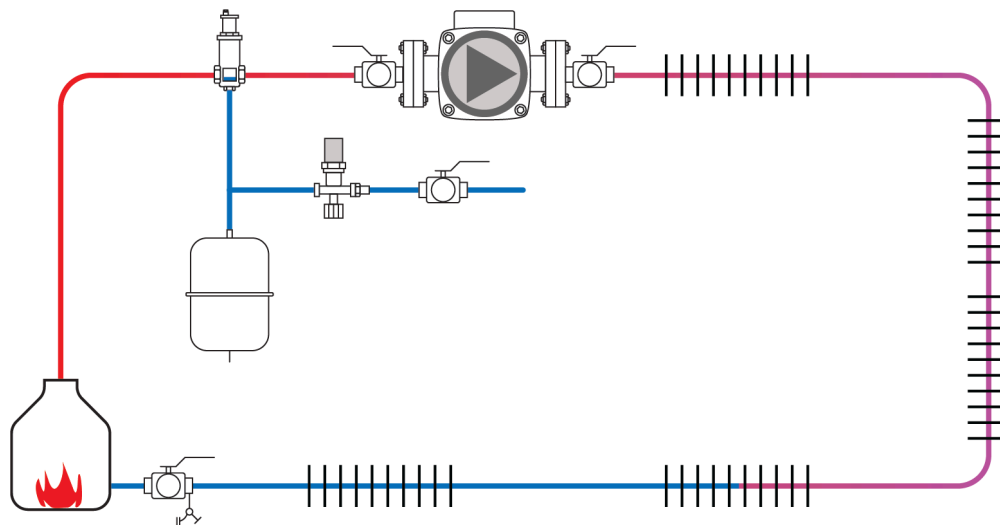

Figure 4
10. What system is shown in Figure 4?